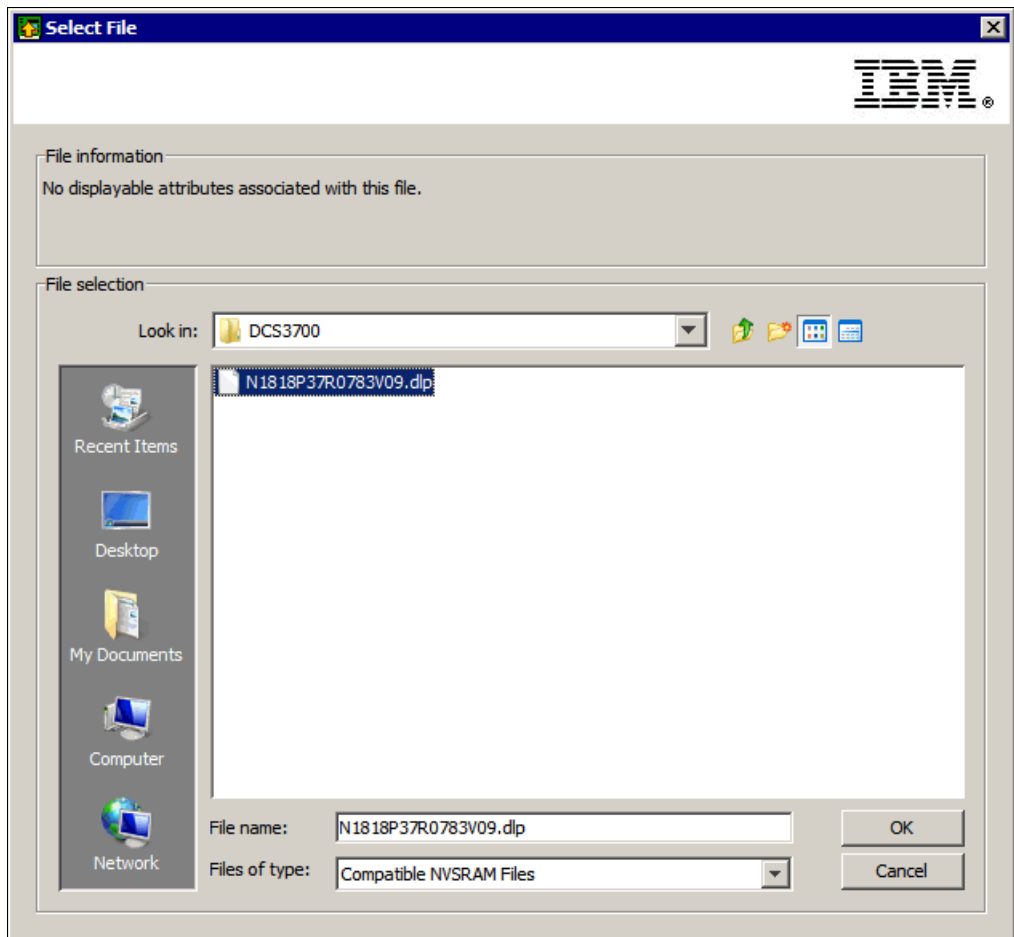

Figure 14-13 Select the NVSRAM file
- b. In the Selected NVSRAM file pane, click **Browse** and select the NVSRAM file that you want to transfer (Figure 14-13).